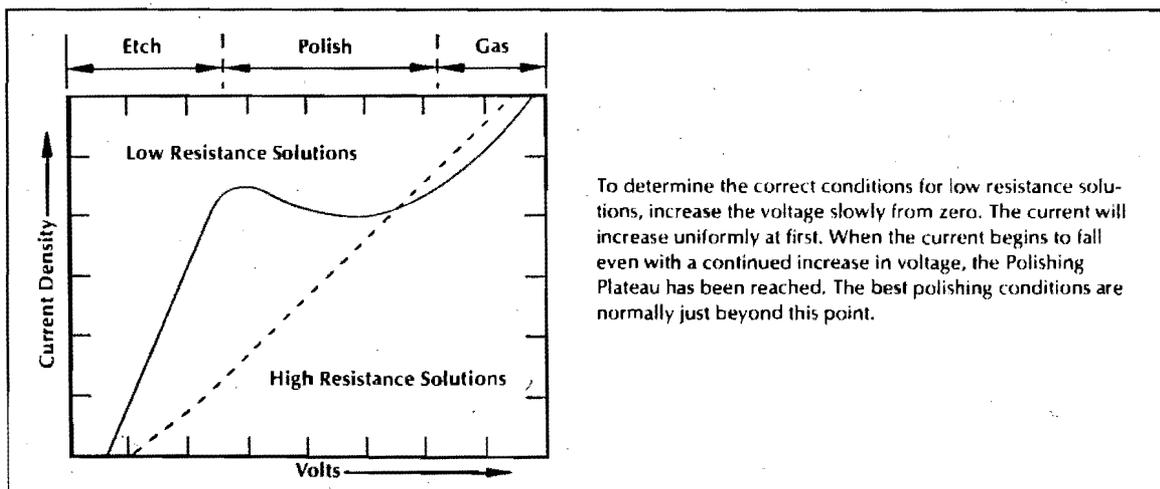

Figure 6. Voltage-Current Density Curves
4. Voltage/Current (Polish/Etch Section of Control Panel)	Adjust to produce current density required to obtain polishing (See Figure 6). Low values produce etching; high values produce gassing and heat.
Electrolytic etching is similar to electropolishing except that it occurs at a lower voltage (see Figure 6) and does not usually require a continual flow of electrolyte. Etching normally occurs in the 3-5 volt D.C. range, as monitored by Volt LED Display.